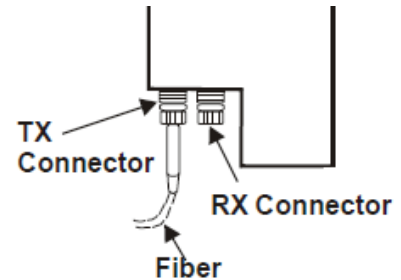

Fig 10: Fiber Connections
- 1.8.2** Connect incoming fibers (or fiber patch cords) to the TeleLite fiber module connectors per Figure 10.
- ✓ Incoming fibers to the TeleLite modules should be landed on the rear connector of the module (RX).
- ✓ Outgoing fibers from the TeleLite modules should be landed on the front connector of the module (TX).